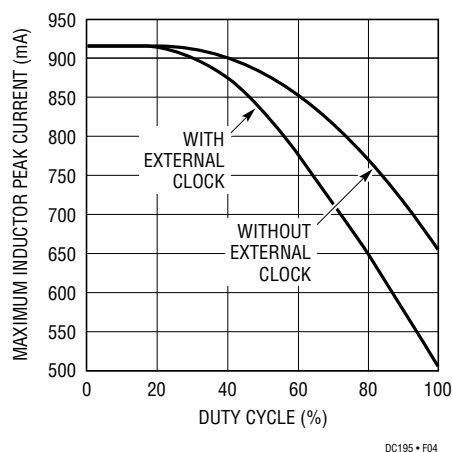

Figure 5. Maximum Inductor Peak Current Vs Duty Cycle
Slope compensation provides stability by preventing subharmonic oscillations. It works by internally adding a ramp to the inductor current signal at duty cycles in excess of 40%. As a result, the maximum inductor peak current is lower for  $V_{OUT}/V_{IN} > 0.4$  than when  $V_{OUT}/V_{IN} < 0.4$ . See the maximum inductor peak current vs duty cycle graph in Figure 5.
0.7V, the LTC1627 begins operating. As the voltage on RUN/SS continues to increase from 0.7V to 1.8V, the internal current limit also increases at a proportional linear rate. The current limit begins at 25mA (at  $V_{RUN/SS} \leq 0.7V$ ) and ends at the Figure 5 value ( $V_{RUN/SS} \geq 1.8V$ ). The output current thus increases slowly, charging the output capacitor. If RUN/SS has been pulled all the way to ground, there is a delay before starting of approximately  $310ms/\mu F$ , followed by an additional  $490ms/\mu F$  to reach full current.  $C_{SS} = 0.1\mu F$  on this PC board.